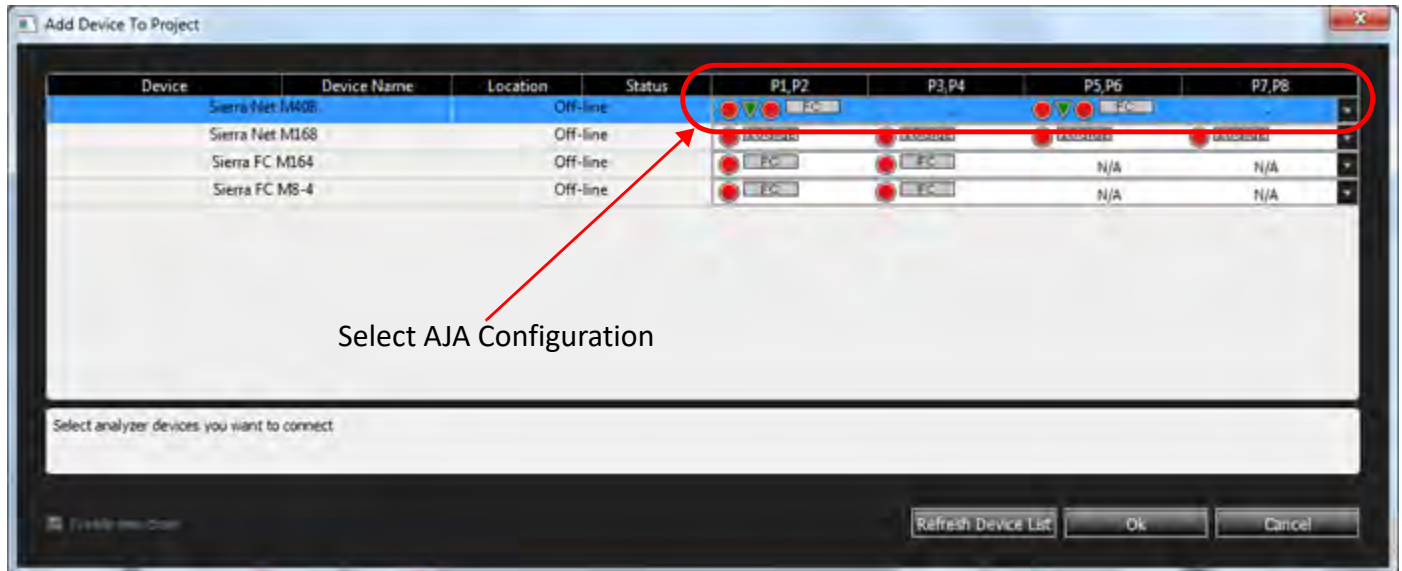

Figure 6.4: Add Device to Project Dialog with Configuration Selected
4. Scroll through the list and select the AJA (FC) on Ports 1/2 and AJA (FC) on Ports 5/6. This configuration allows you to analyze and jam data traffic coming into and out of the analyzer on both Ports 1/2 and Ports 5/6. It also assumes you are targeting Fibre Channel devices.
- Click **OK**. The Add Device to Project dialog returns with the selected configuration. See Figure 6.4.